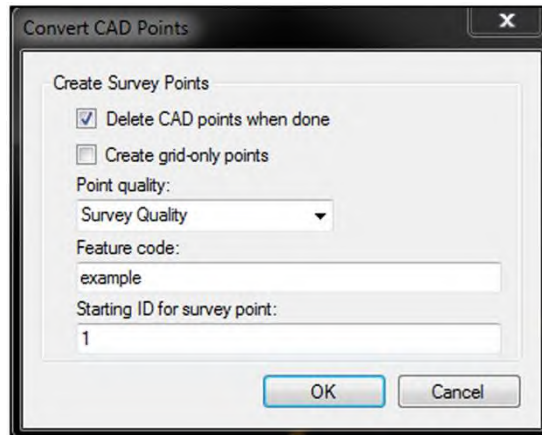

Figure 13: Convert CAD Points tool window.
5. Check "Delete CAD points when done." Continue and choose "Survey Quality" under the "Point quality" drop-down, then assign the "Feature code" and "Starting ID for survey point" (Point ID; Figure 13).